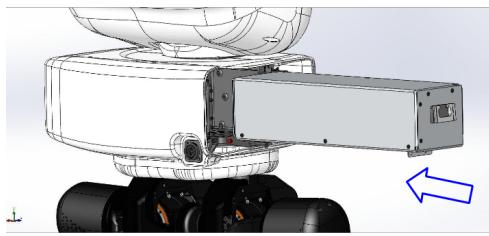

Figure 16: Battery assembly
3. The battery will be inserted from robot's right side, as shown in Figure 16.